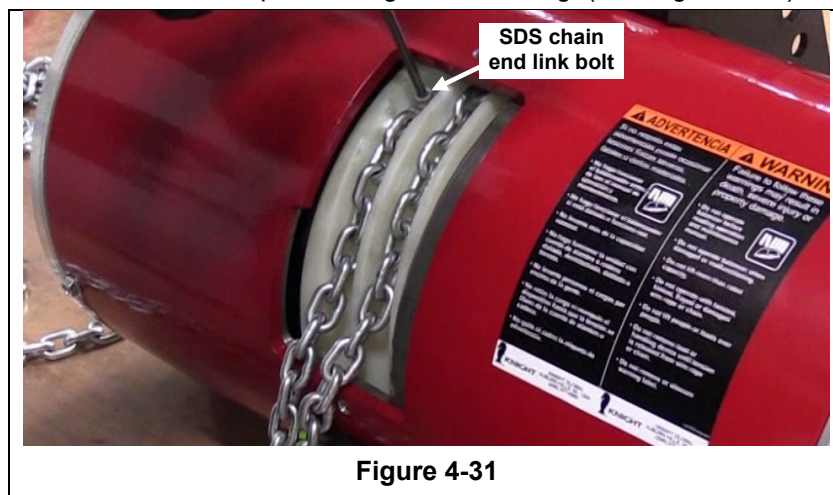

Figure 4-31
Step 17. Align the new SDS chain end link into the spool chain seat and reinstall MG-1 end link bolt and washer into the chain and spool and tighten until snug. (See Figure 4-31)